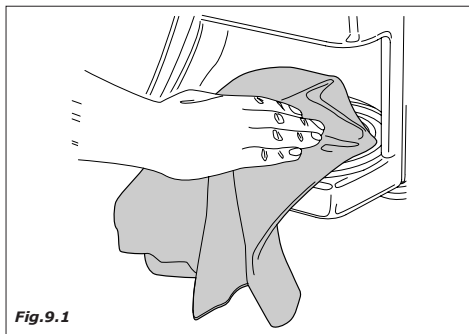
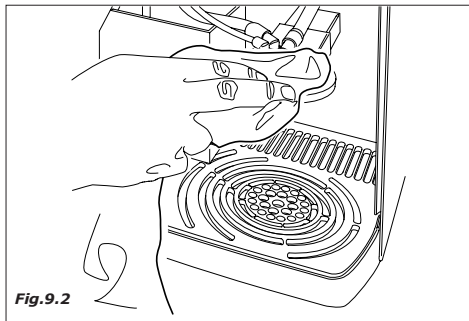

Fig.9.1
Fig.9.2
- clean all the visible parts in the dispensing area. (Fig. 9.1 e Fig. 9.2)